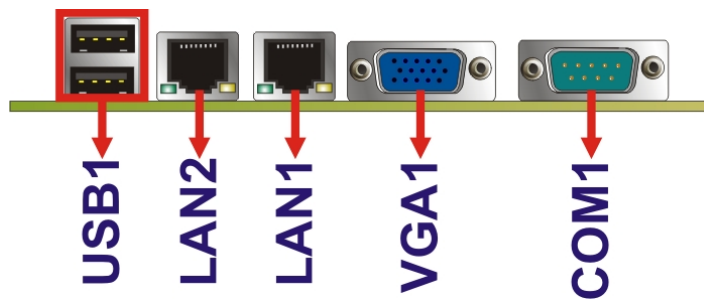

Figure 3-23: External Interface Connectors
Figure 3-23 shows the WAFER-PV-D5252/D4252/N4552 motherboard external interface connectors. The WAFER-PV-D5252/D4252/N4552 on-board external interface connectors are shown in Figure 3-23.
- CN Location:** See **Figure 3-23**